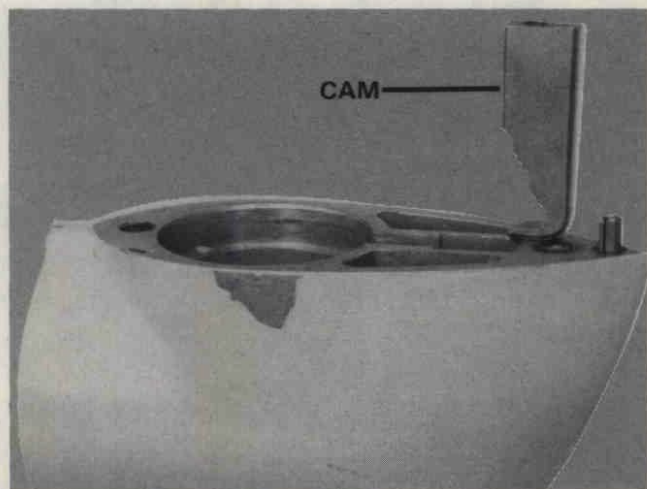

Figure 36. Installing Cam.
- A. Slide cam into slot in lower gear housing. Note position, Figure 36.